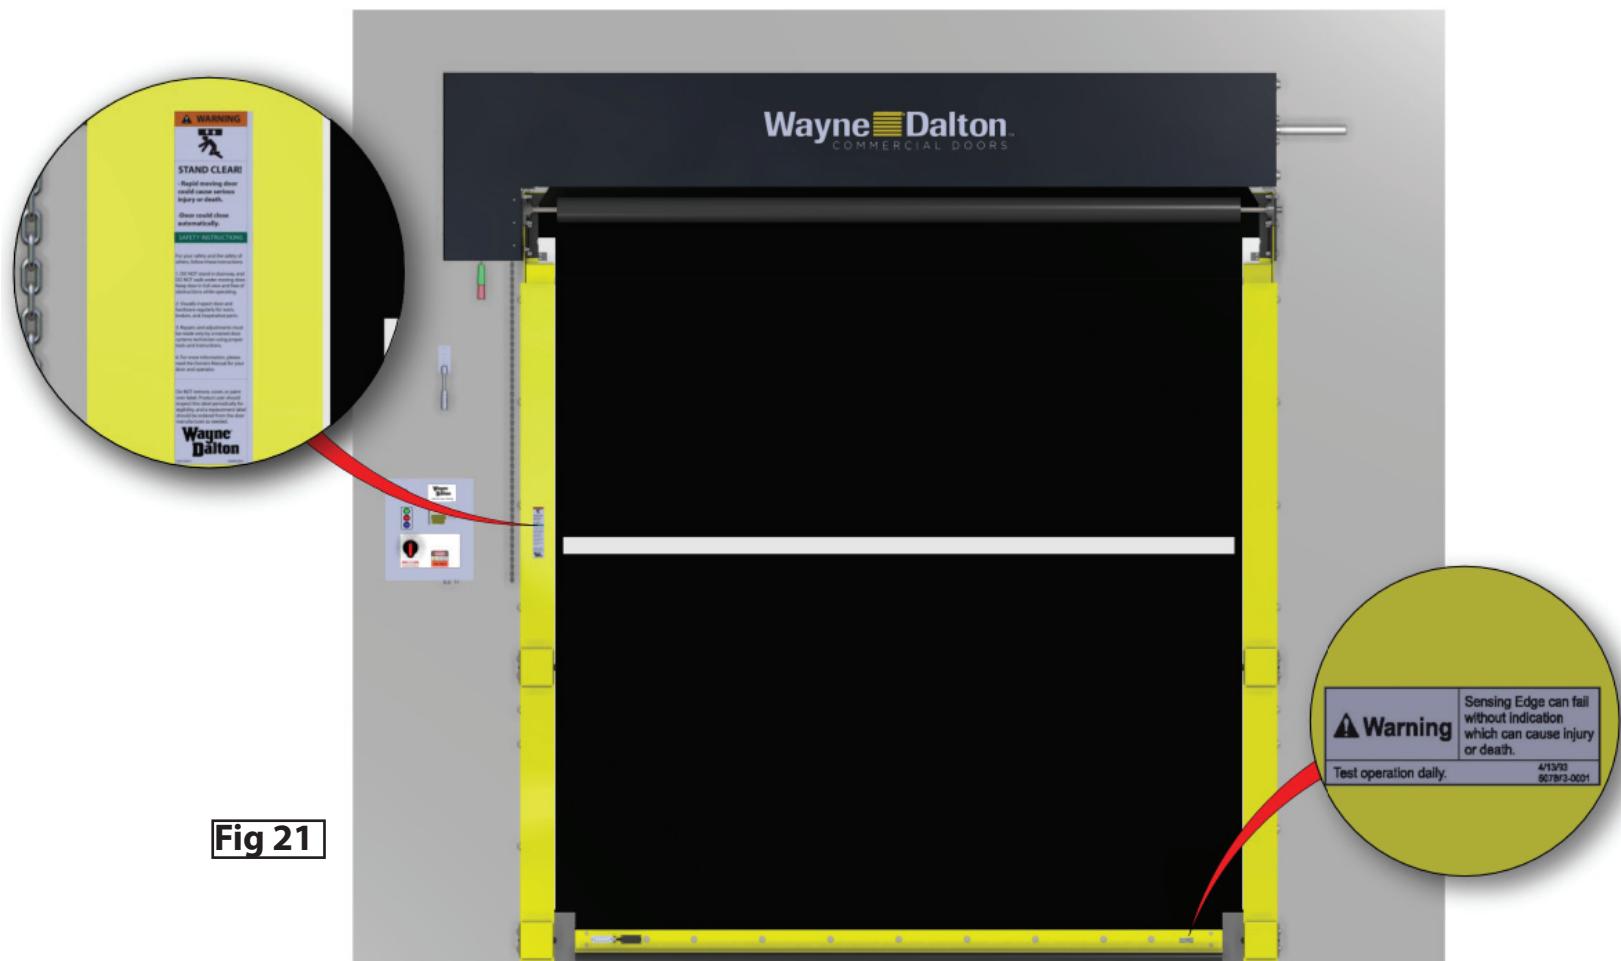

Fig 21
- The assistant(s) will need to push the bottom bar and curtain assembly in towards the wall while it is being lowered with the hand chain, so it will be routed correctly behind the idler barrel as shown in FIG 21.
- Be sure the curtain assembly passes behind the idler barrel and into the bell mouth and guides as shown in FIG 21.